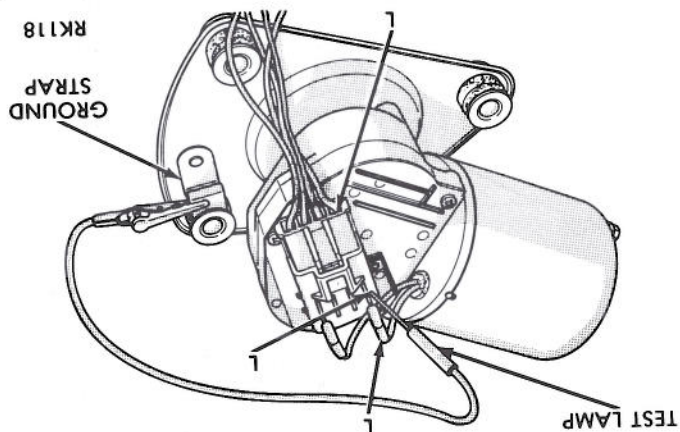
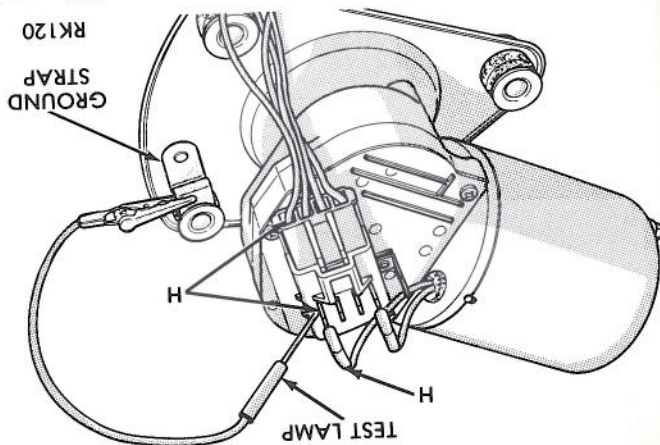

Fig. 7—Test Lamp Between Terminal "L" and Ground
Fig. 6—Test Lamp Between Terminal "H" and Ground
If there is 12 volts or test lamp lights at Terminal "L", and ground (Fig. 7).
(1) If motor will not run on High speed, put switch in High position and connect a test lamp between motor Terminal H and ground with connector connected (Fig. 6). If motor will not run on Low speed, put panel switch in Low position and connect a test lamp between motor Terminal "L" and ground (Fig. 7).
(2) If test lamp does not light at motor terminal, there is an open in wiring or switch. If test lamp lights at motor terminal, replace motor assembly.